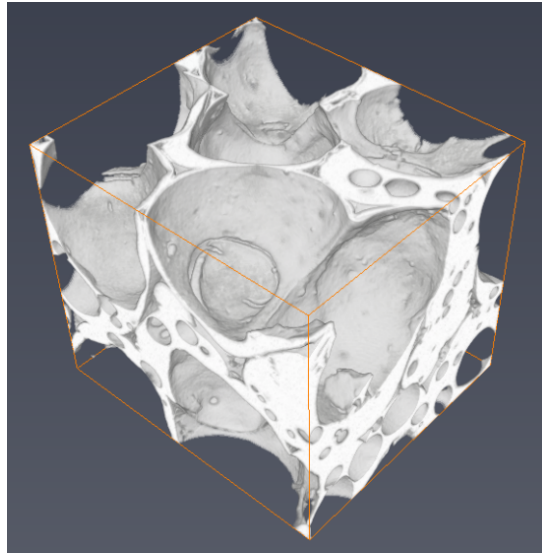

Figure 22.3: Original Data Display
1. Load the file `data/tutorials/PNM/Sponceram.am` and display it using the *Volume Rendering* module. Set the Colormap port max to `4590` to have a better rendering (see Figures 22.3 and 22.4 with colormap configured to hide the void phase).